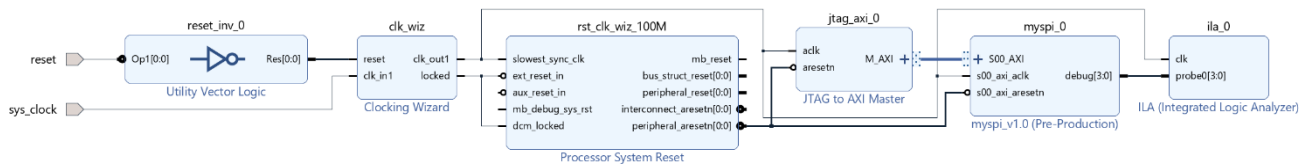

Figure 18: Final block diagram for part B.
- 8) Right click on blank area and click "Regenerate Layout", you block diagram should look like Figure 18.